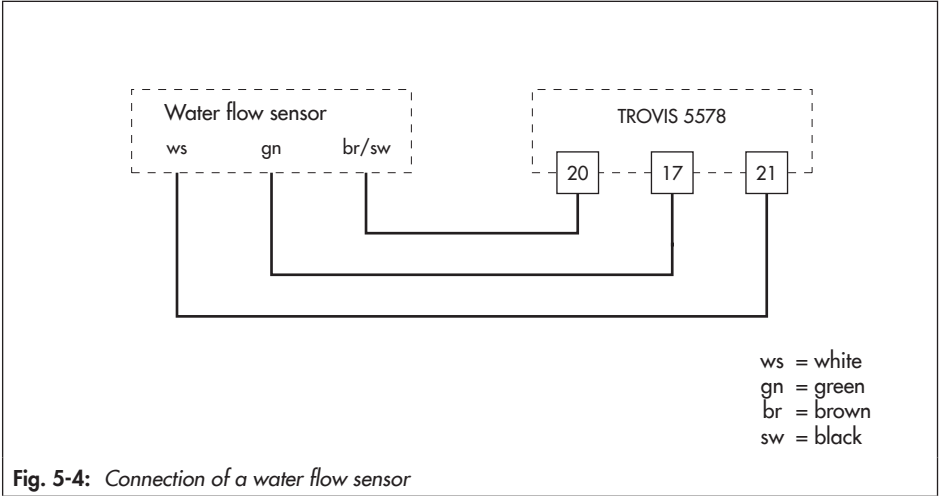

Fig. 5-4: Connection of a water flow sensor
- Connect as shown in Fig. 5-4.